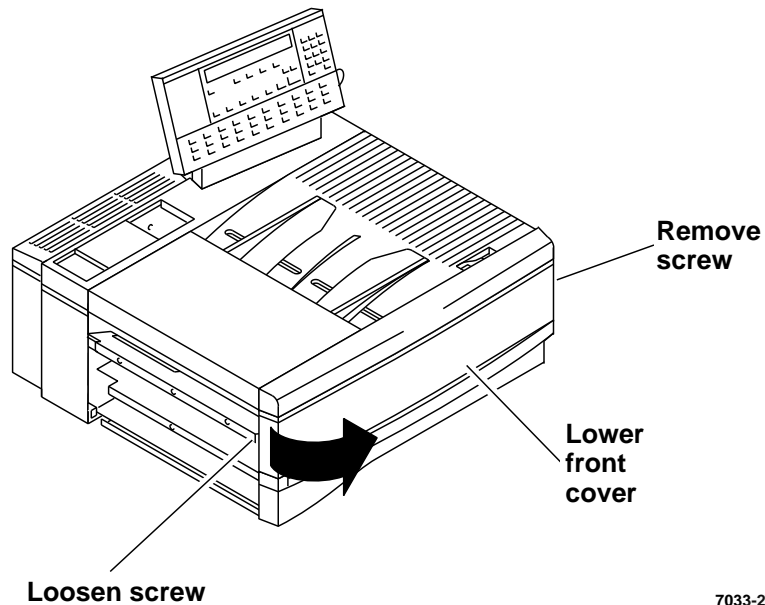

Figure 1. Lower front cover removal.
- c. Remove three (3) screws securing left side cover.
- a. Remove the screw from the right end of the cover (Figure 1).